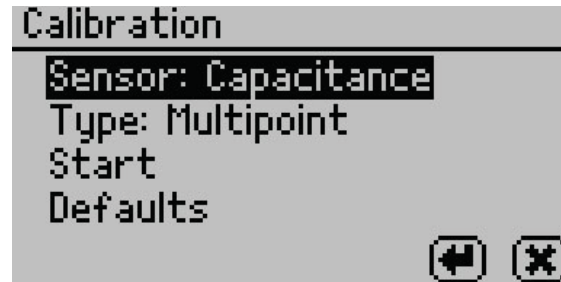

Figure 51 Capacitance sensor calibration screen
3. Select Calibration from the Configuration tab (Figure 51).